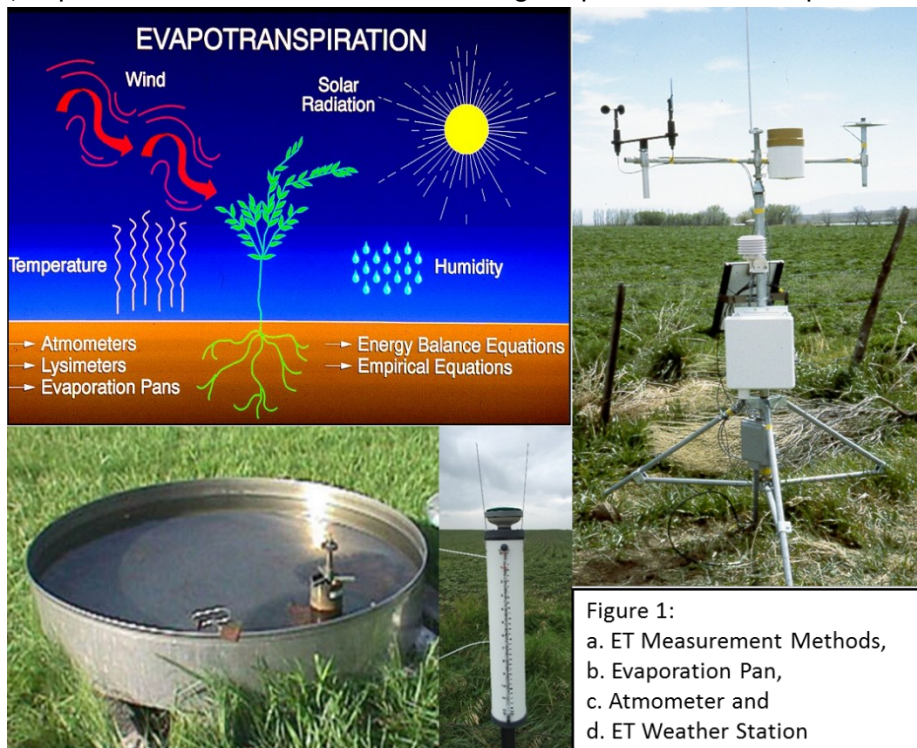

Figure 1:
Figure 1. The most accepted method is not a direct measurement but a relationship to weather data using energy balance and empirical equations. A strong correlation has been made between water loss from lysimeters (plant transpiration and soil surface evaporation; collectively referred to as Evapotranspiration or ET) and weather data. The factors most effecting evapotranspiration (ET) are solar radiation, air temperature, humidity, and wind speed. We find that everything from our hair to a paint job dries